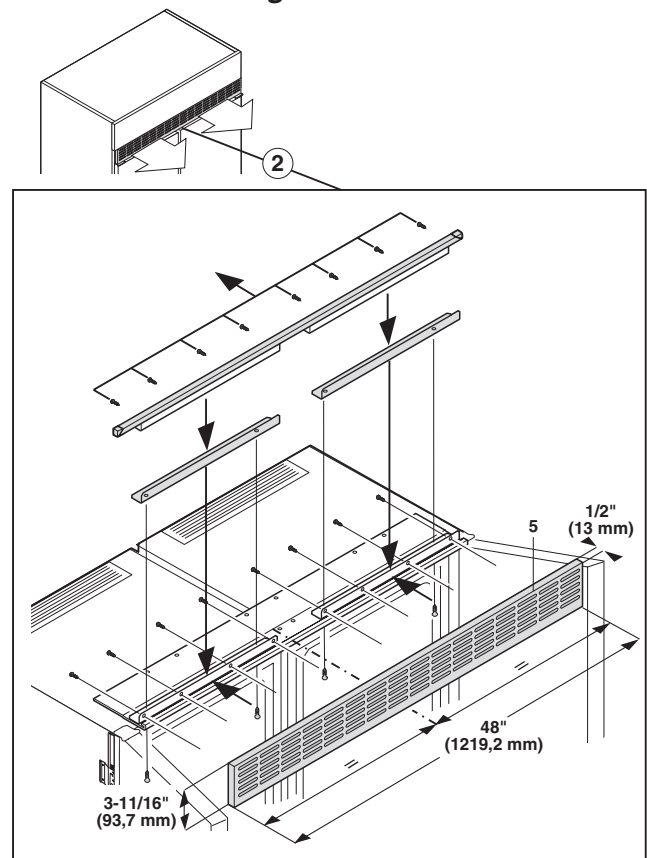

Figure 34
- Figure 34:** Cut out the wooden trim for use as a ventilation grille using the attached template.
- Screw the installation frame (6) to the appliance.
- Remove the attachment brackets from the installation frame (2) and screw them to the appliance from underneath.
- Place the wooden ventilation grille (5) on the appliance, align it in the center and secure it from the rear using the attachment brackets.